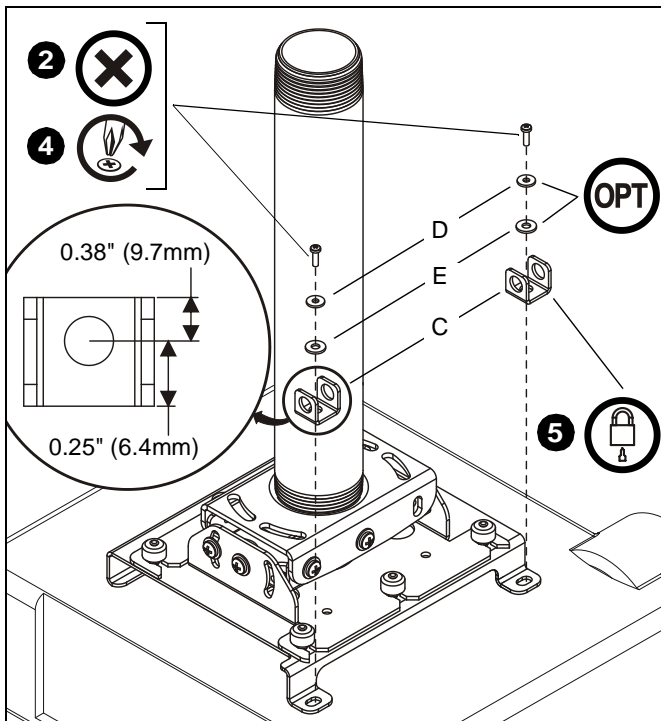

Figure 1
2. Remove one screw attaching interface to projector (See Figure 1).
4. Install security cover (C), washer (E, if required), washer (D, if required), and screw. (See Figure 1)
5. Install padlock through holes in cover (C) (See Figure 1).